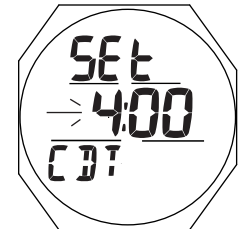

Fig. 8 - SET CDT
**Set CDT**, information includes (Fig. 8):